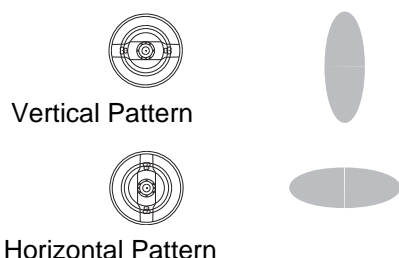

FIG. 18 . Air Cap Positions
4. Loosen the air cap retaining ring, and rotate the air cap for a vertical or horizontal spray pattern. See FIGURE 18. Tighten the retaining ring until the air cap is held firmly in place; you should not be able to rotate the air cap horns by hand.